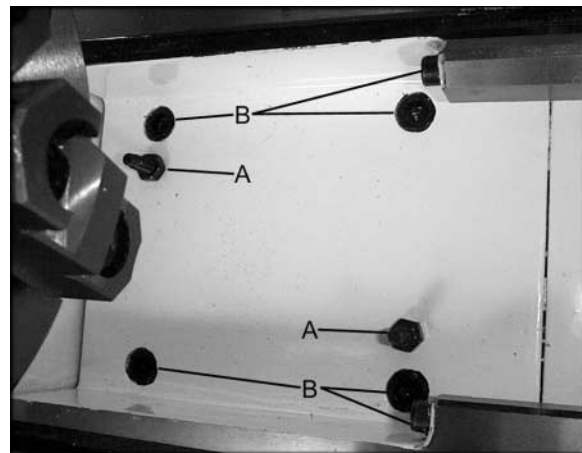

Figure 26
- To remove gap section, locate two nuts (A, Fig. 26) in the center of the gap section.
- Remove six hex socket cap screws (B, Fig. 26) with a hex key wrench.